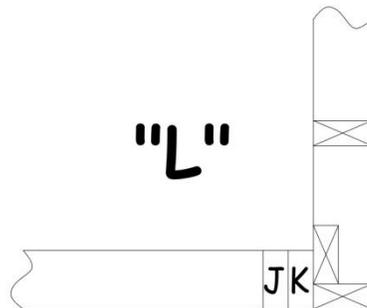

Figure 6-4. L-Corner Construction.
- d. Where a door will be attached at the end of a bathroom or bedroom wall, mark the end of the wall for a 2x4 L-corner oriented to allow nailing through the L-corner into the King stud of the door. (Similar to the 2x6 L-corners used in the exterior walls). If doors are to be attached on both sides of this same wall, install a 2x4 “U-block” at the end of the wall as shown in Figure 6-4.